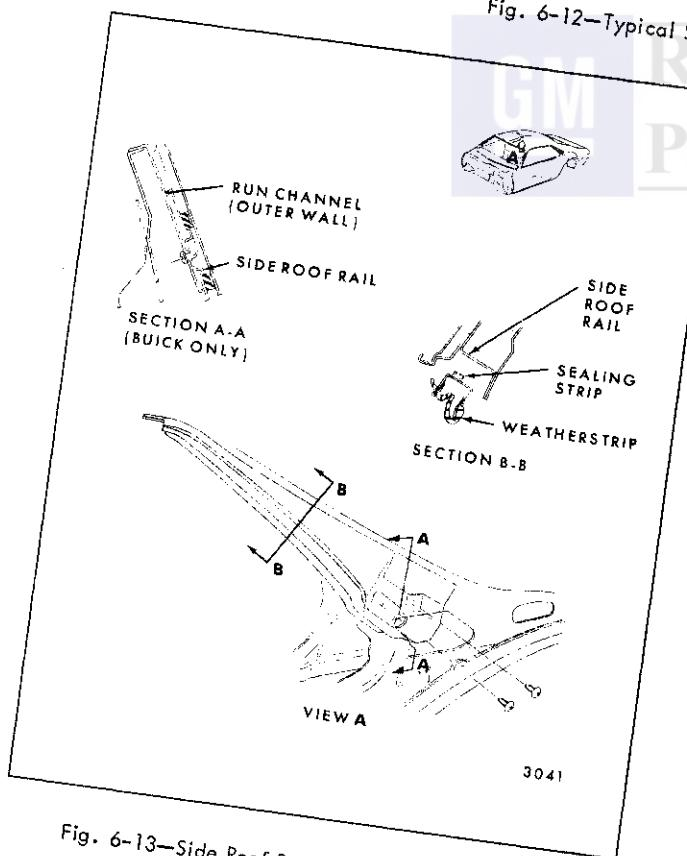

Fig. 6-13—Side Roof Rail Weatherstrip Assembly -
- b. Remove screw(s) securing side roof rail weatherstrip (rear section) to side roof rail (See Fig. 6-13), and rear quarter panel.
1. If retainer has been removed, remove and discard saturated polyurethane foam sealing strip from side roof rail weatherstrip retainer and/or side roof rail (See Fig. 6-13).